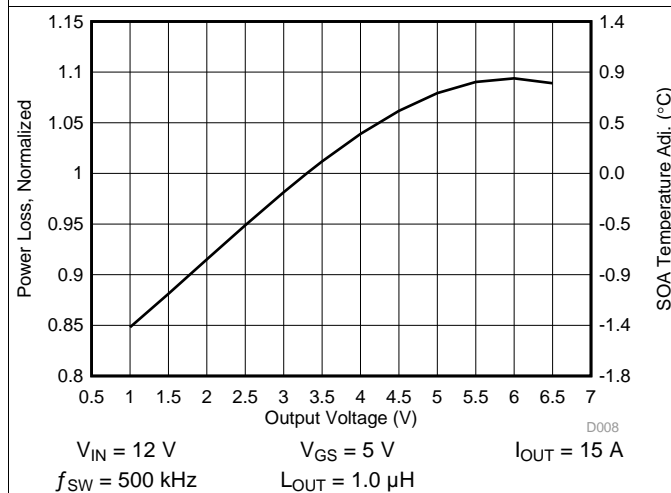

Figure 8. Normalized Power Loss vs Output Voltage
- Normalized power loss for output voltage ≈ 1.08 (Figure 8)
- SOA adjustment for output voltage $\approx 0.7^\circ\text{C}$ (Figure 8)